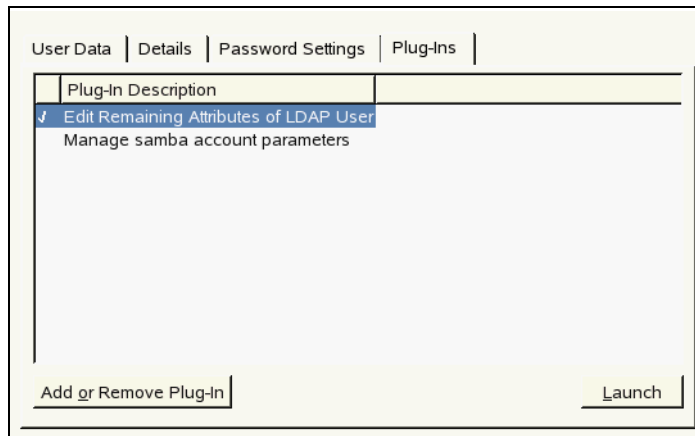

Figure 7-5 Additional LDAP attributes
4. Click **Add** and enter the configuration of a new user. A dialog with four tabs opens (Figure 7-5 on page 280):